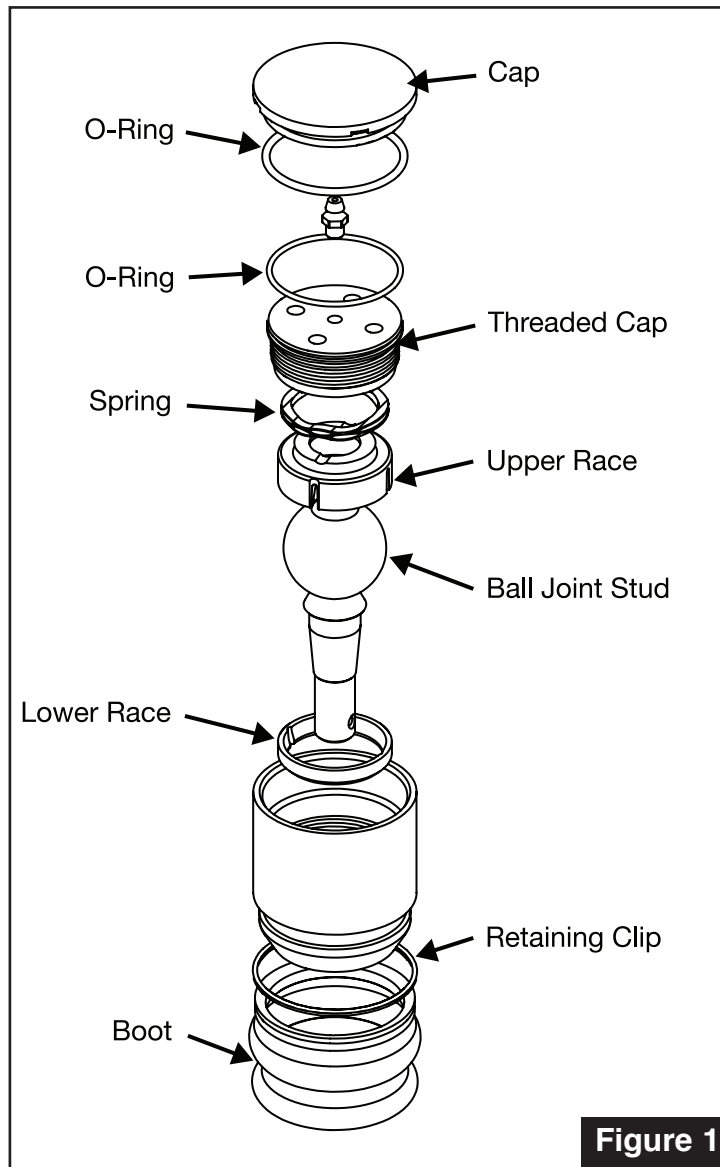

Figure 1
6. Replace internals in same order as shown in **Figure 1**. Ball joint stud is re-used.